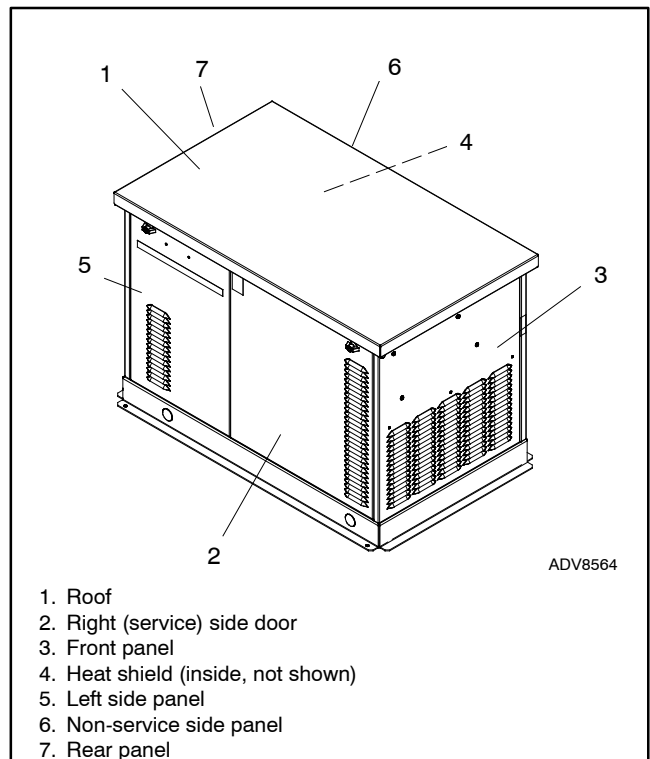

Figure 7-39 Generator Set Enclosure, 20RESB and 20RESD
29. Reinstall the enclosure panels in reverse order of removal. See Figure 7-39 and refer to the disassembly instructions, if necessary.